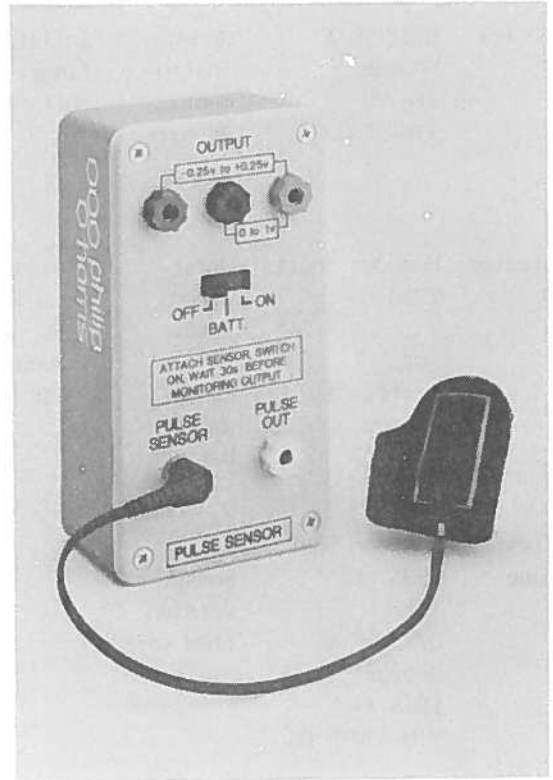

Fig.2
- sensor box which connects to a computer interface (Fig. 2)